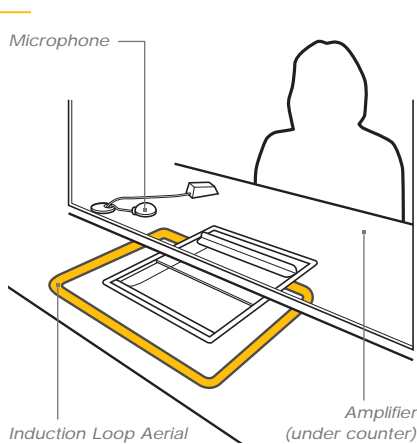

Fig. 1 Typical counter configuration
**Note:** Correct positioning of the aerial is critical to ensure optimum system performance. See Figs. 1 and 2 below.
Site amplifier in a position to allow easy access by member of staff to operate power switch and adjust the gain control potentiometer (situated on the side of the amplifier). See Figs. 1 and 2 below.
Place microphone in a convenient position close to the member of staff. See Figs. 1 and 2 below.